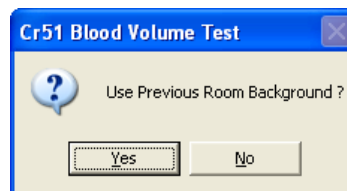

Figure 10-57
**Note:** If the background has recently been counted, then the screen shown in Figure 10-57 will appear. To skip counting the background again and proceed to step 5, click the  button or press the Y key. To re-measure the background, click the  button or press the N key. The screen shown in Figure 10-58 will appear.